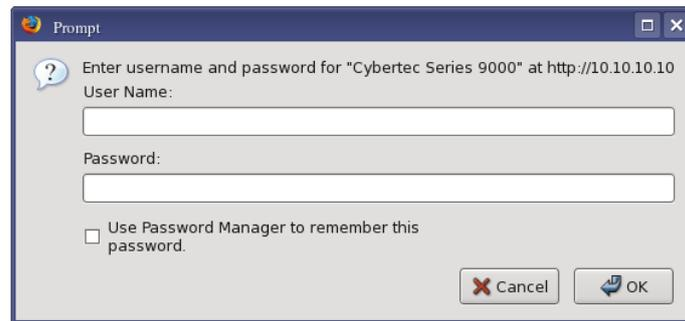

Figure 24: Web login box
- A login box similar to Figure 24 will pop up. If the box fails to display, re-check the cable connections to the unit and the IP address settings of the PC.